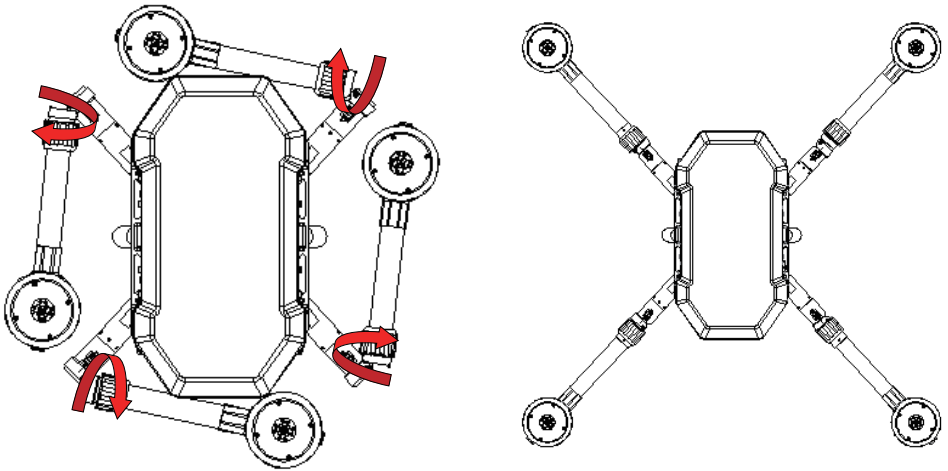

Figure 2 (Spread The Arms)
- ① Body: 1 pc
- ② Propeller: 4 pairs
- ③ Landing Gear: 2 sets
- ④ Motor Accessories: 1 bag (GPS stick\*1, 3M tape\*5, motor accessories\*8)
- ⑤ Gimbal Parts: 1 bag (gimbal hook\*4, M3\*5 screw\*4, M3\*6 screw\*4, M3\*8 screw\*4)
2. Take out the frame and spread (Figure 2)